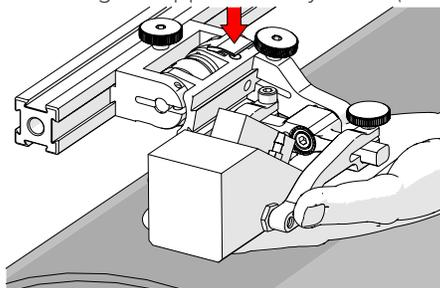

Fig. 108 - Lift and press latch button
3. Lift the probe slightly and press the latch button (Fig. 108) to apply spring pressure to the wedge.